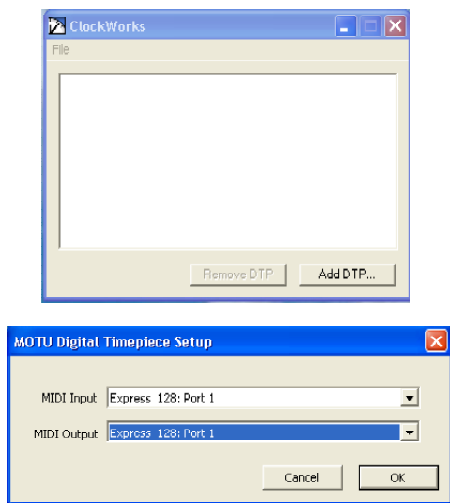

Figure 1: Click the Add DTP button to add a Digital Timepiece to the ClockWorks device list.
When you first launch ClockWorks, the Device List window appears. If a MIDI Timepiece AV or other similar MOTU MIDI interface is connected to your computer (with properly installed drivers), you'll see it in the list. If not, the list will be empty. In either case, click the *Add DTP* button to add your Digital Timepiece to the list, as shown below in Figure 1:
The Digital Timepiece has two sets of MIDI IN/OUT ports. Make sure that one set or the other (it doesn't matter which one) is connected bidirectionally to a MIDI interface connected to your computer. Make sure that the connections in the Digital Timepiece setup window (Figure 1) accurately reflect the MIDI ports being used for the MIDI cable connections between the interface and the Digital Timepiece.
After you click the OK button in Figure 1, ClockWorks attempts a handshake with the Digital Timepiece hardware itself. If the handshake is unsuccessful for some reason, you'll see an alert:
■ The Digital Timepiece is not connected to the MIDI interface, or it is connected improperly. Make sure your cable connection(s) to the Digital Timepiece match Figure 1. Then choose *Refresh Device* from the File menu.